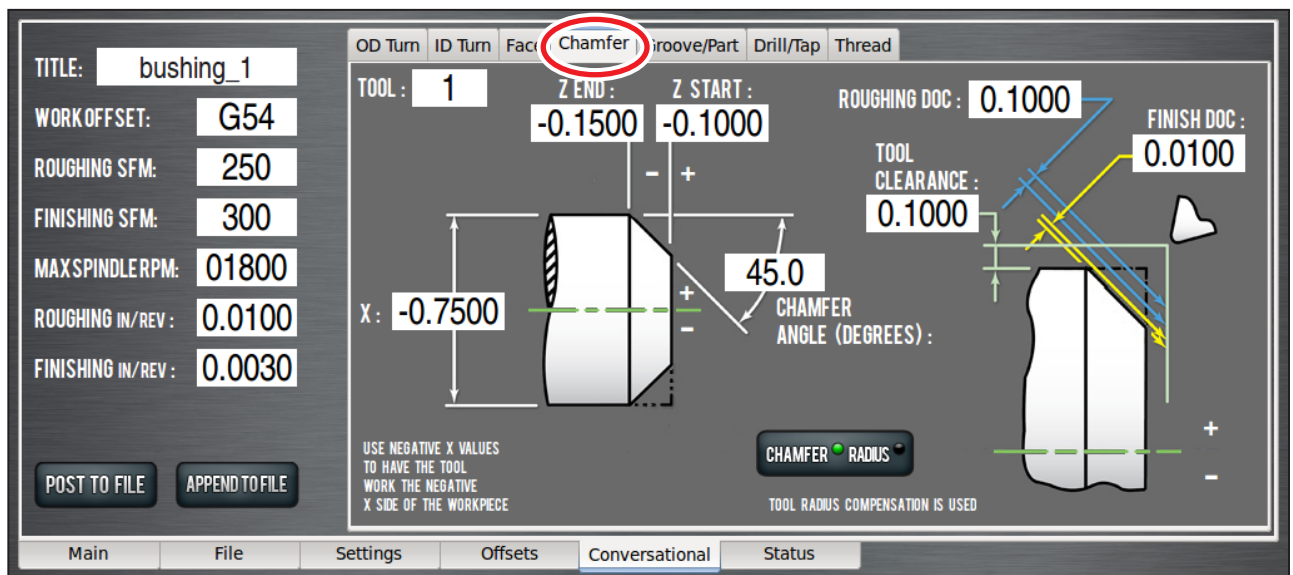

**Figure 4.23**
2. Append this code to the file as you did at the end of the *Operation 2* section earlier in this chapter. The tool path should now resemble **Figure 4.23**.